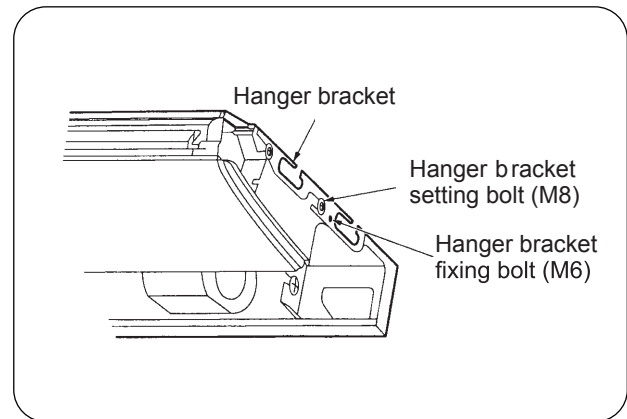

Fig.5
- 2) Loosen two hanger bracket setting bolts (M8) on each side for less than 10mm. Remove two hanger bracket fixing bolts (M6) on the rear side. Detach the hanger bracket by pulling backward (Refer to Fig.5).
(6) Screw tightly both hanger bracket setting bolts(M8) (Refer to Fig.5).
(7) Screw tightly both hanger bracket fixing bolts (M6) to prevent the movement of the unit (Refer to Fig.5).
(8) Adjust the unit height so that rear side of the drain pipe slightly inclines to improve drainage. Adjust the height by turning the nut with a spanner.